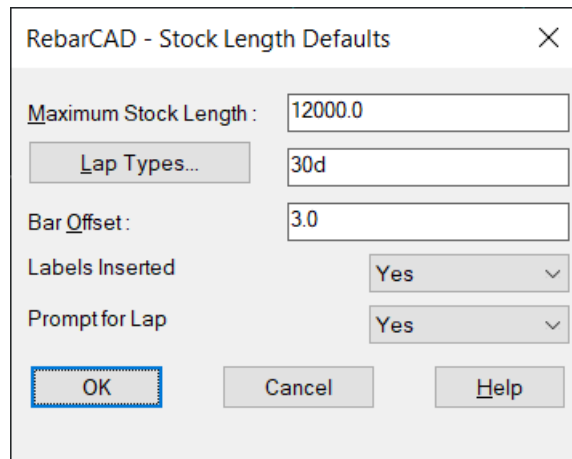

Figure 7.5:1 Stock Length Defaults dialog
- If you type **S** for Stock the dialog shown in figure 7.5:1 below is displayed. This allows you to amend the *Maximum Stock Length* value and if you then attempt to stretch the bar(s) over this value **RebarCAD** will automatically invoke the *Over Stock Length* feature discussed earlier in Section 4.4. Select OK to return to the command.